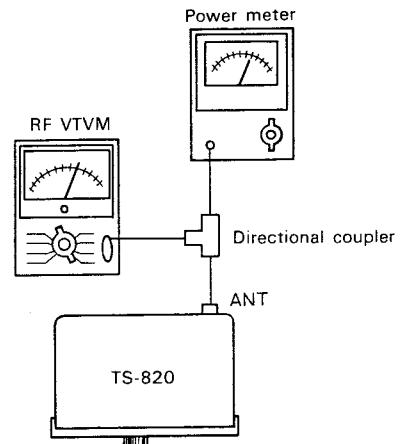

Fig. 34 Adjustment of carrier suppression
- 1) Make connection as shown in Fig. 34 and adjust 14.175 MHz EW until full power is obtained.
1) In **Fig. 34**, make adjustment until maximum output is obtained at 21.225 MHz.